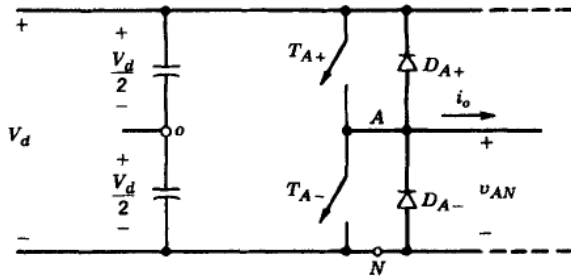

Figure 1: One-leg switch-mode inverter [R1]
1. Consider only one inverter leg as shown in Figure 1, where the output current lags $(v_{Ao})_1$ by an angle ϕ , as shown in Figure 2a. and o is the fictitious midpoint of the DC input. Because of the blanking time t_Δ , the instantaneous error voltage v_ϵ , is plotted in Figure 2b, where,